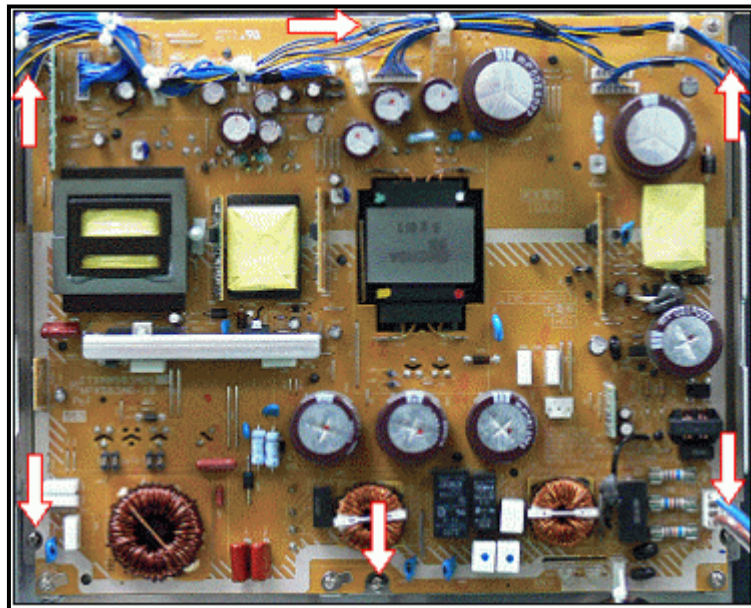

Figure 11. P Board
3. Remove the six screws as indicated in Figure 11.